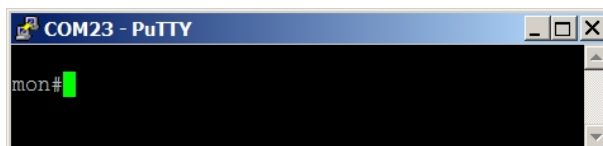

Figure 6: Open terminal window for module configuration via serial line
Click on „Open” button in „PuTTY” program and open the terminal window. After pressing of „ENTER” key there will appear a command prompt „mon” which announces that the module is ready to be configured (see figure 6).
- the command must be entered only when a prompt for command appears in front of the cursor mark (colored or flashing little square); the prompt is either „mon” or „mon” format (see figure 6);